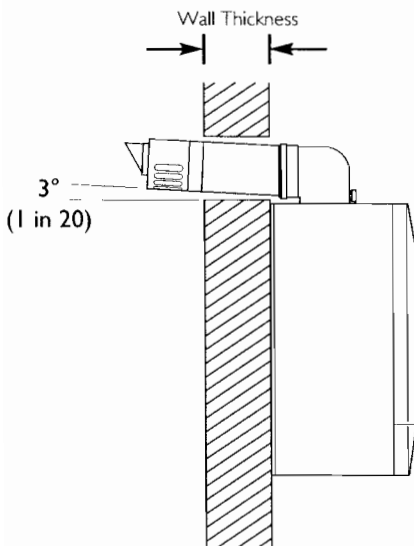

Fig. 26
2. **For rear exit** - measure the wall thickness (Fig. 26) and to this dimension add 210mm. This dimension to be known as (X).
4. **For side exit** - measure the distance from the edge of the wall plate to the inner face of the wall (Fig. 26) and to this dimension add the wall thickness + 250mm. This dimension to be known as (Z).